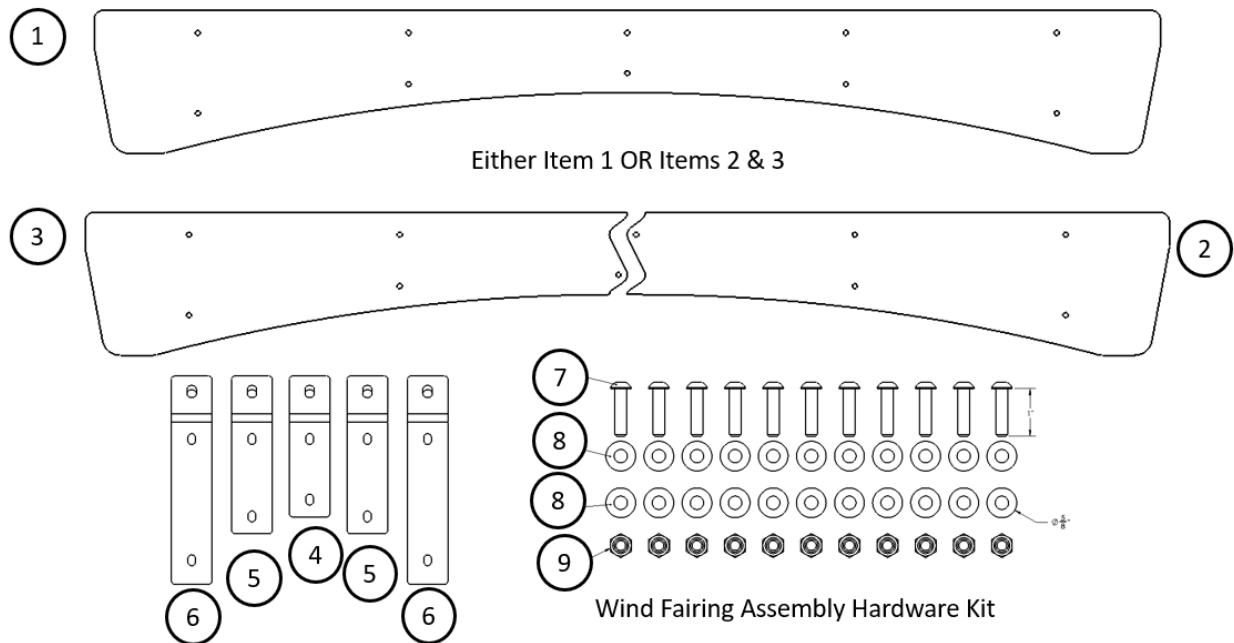

Figure 4: Wind fairing parts provided (Items are not shown to scale)
The Wind Fairing comes with the custom profiled High Impact CNC Machined Acrylic Wind Fairing (1 Piece or 2 Piece, 5 wind fairing brackets, and the hardware required to bolt the wind fairing to the brackets. The installation hardware required to bolt the wind fairing plus brackets to your rack cross bar is sold separately. Table 1 lists the parts, part numbers, and quantities of parts required to assemble and install the wind fairing. Figure 4 shows what each part looks like. Please note that Figure 4 is not shown to scale. Please also note that we include some extra hardware with the kit just in case you need it. We included one extra of Items 7 and 9, and two extra of items 8.